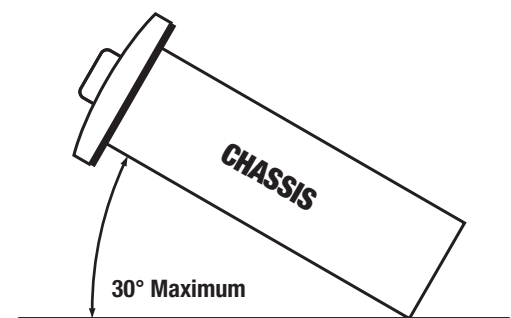

Figure 2
- Do not install unit at any angle less than horizontal or greater than +30° (Figure 2, CMS1 excluded).